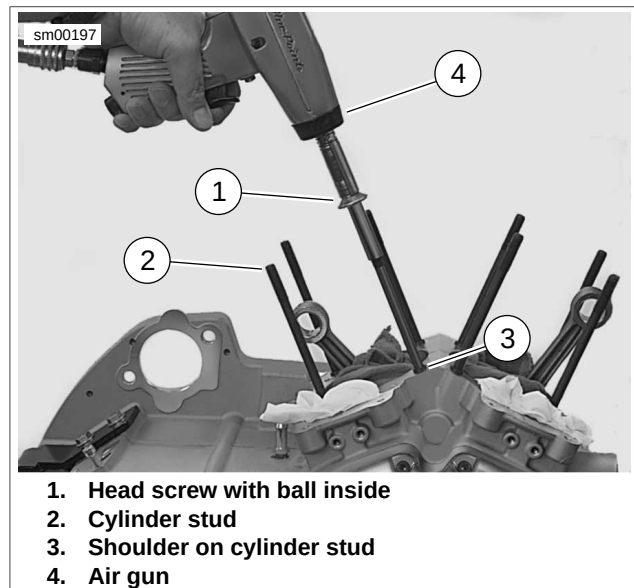

Figure 3-142. Cylinder Studs
11. See Figure 3-142. Install cylinder studs.